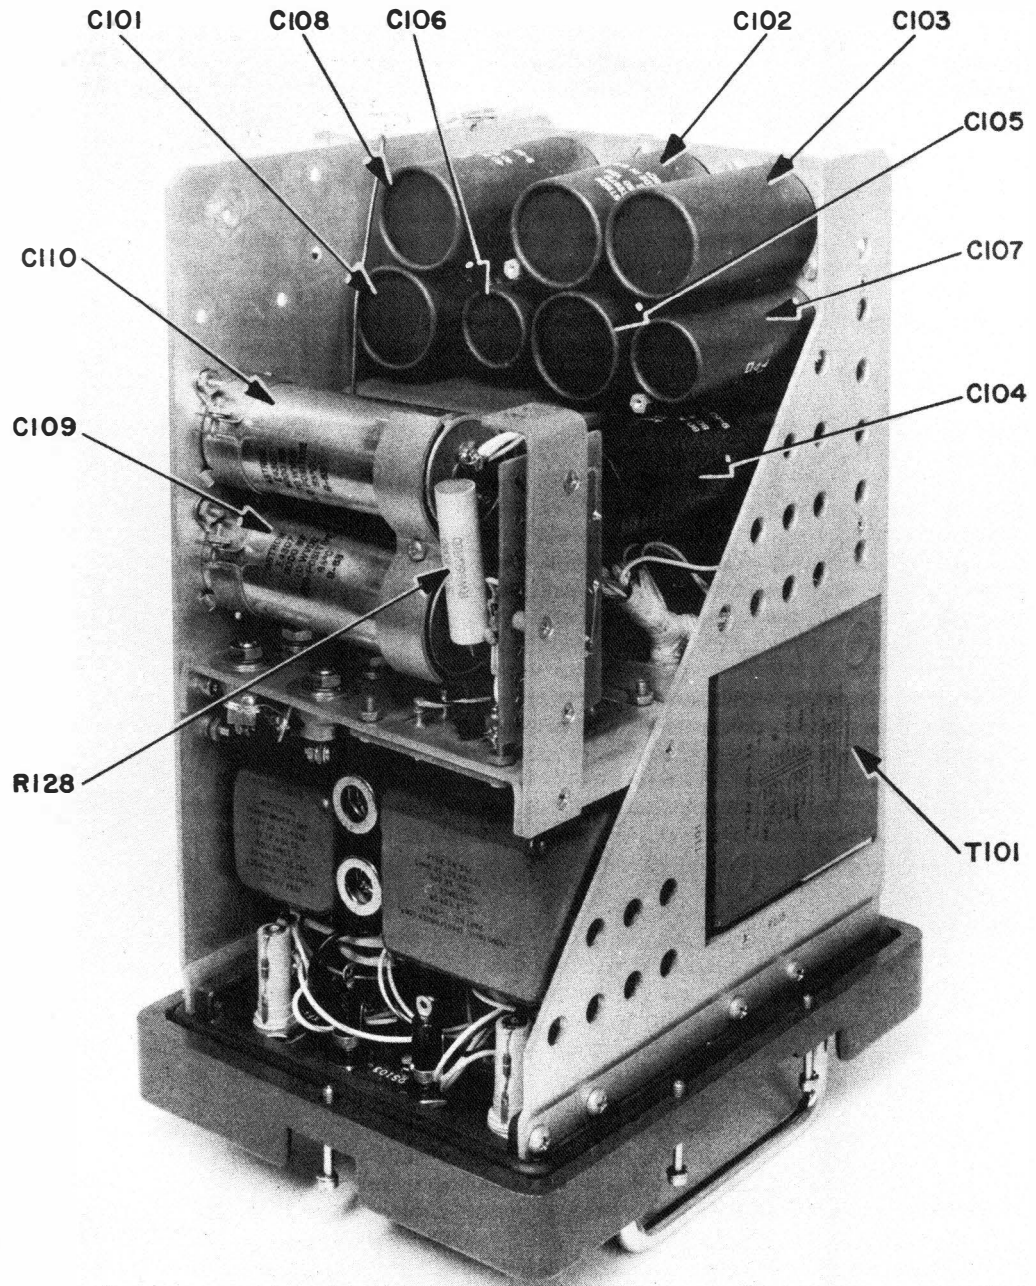

Figure 5-2. Power Supply PP-1175A/SR, Top, Right View with Dust Cover Removed
(1) PLUG-IN CAPACITORS. - Remove these capacitors from their respective sockets (see Section 5, paragraph 5-3c(3) and figures 5-2 and 5-5)